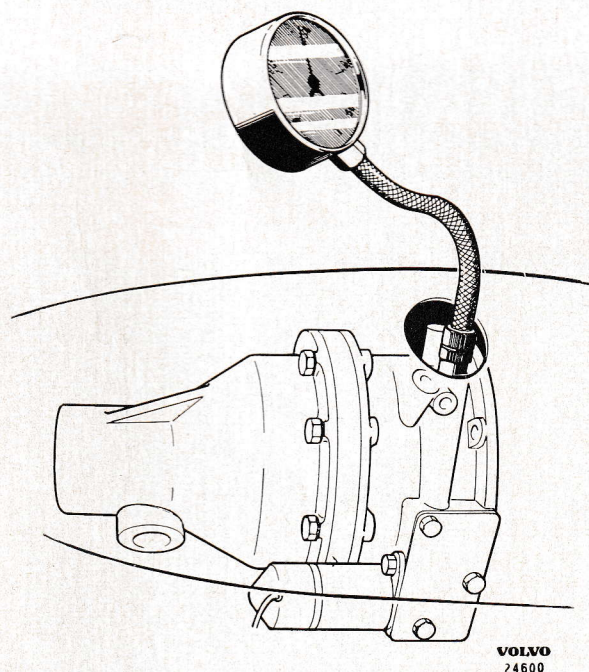

Fig. 6. Checking oil pressure with pressure gauge SVO 2415
2. Remove the plug over the control valve and connect oil pressure gauge SVO 2415, see Fig. 6.